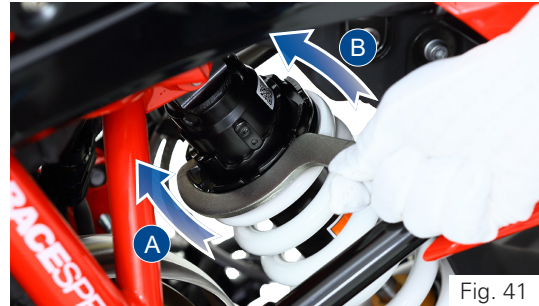

Fig. 41
- Locate the adjuster shock absorber rear and handle ring spanner of tool kit (**ref. page 180**) properly into the notches of pre-load adjuster (ref. Fig. 41).
- Carefully rotate the adjuster clockwise (A) to increase the pre-load (hard suspension).
- Else, rotate the adjuster in anti-clockwise (B) to decrease the pre-load (soft suspension).